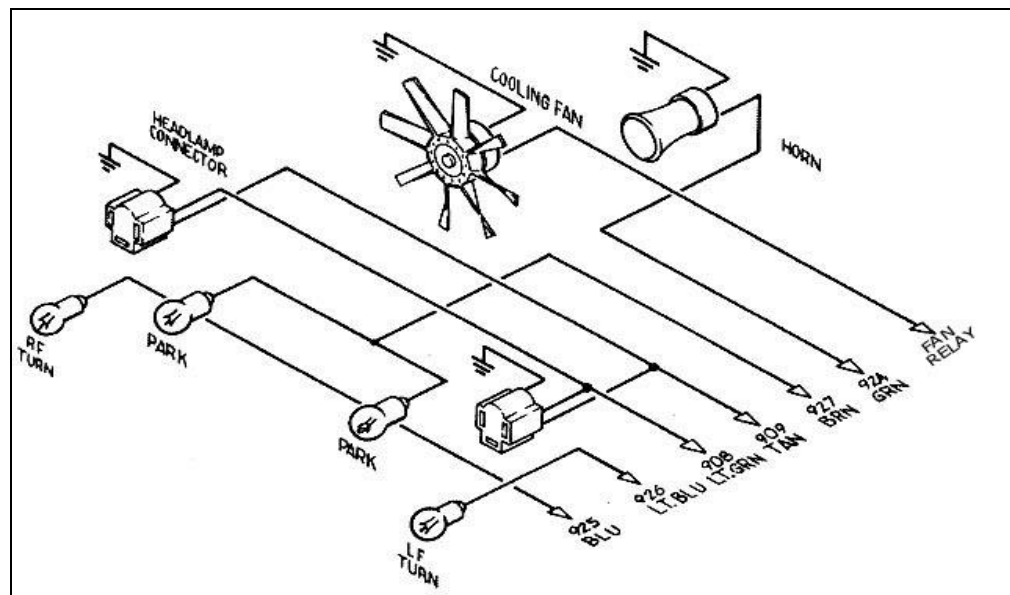

Figure 8.1 HEADLIGHT SECTION A Wiring
8.0 HEADLIGHT SECTION A. See Figures 8-1